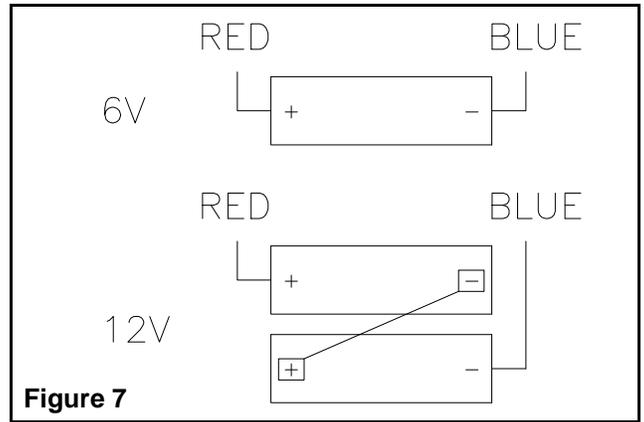

Figure 7
- a. Reinstall battery(ies) one at a time and electronic module as shown in figure 6. See figure 7 for batteries wiring diagram.
- e. Place the battery(ies) back in place one at a time, secure each battery with a battery bracket and screws. Battery heater is placed between the battery and the backplate. See figure 7 for battery(ies) wiring diagram. Put the electronic module back in place as shown in figure 6.